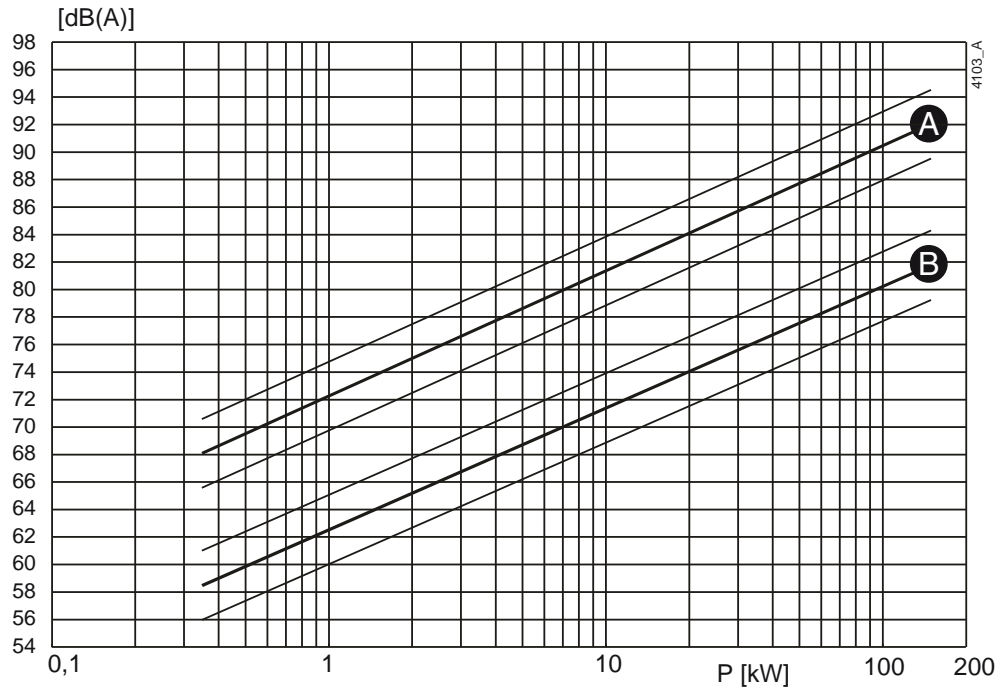
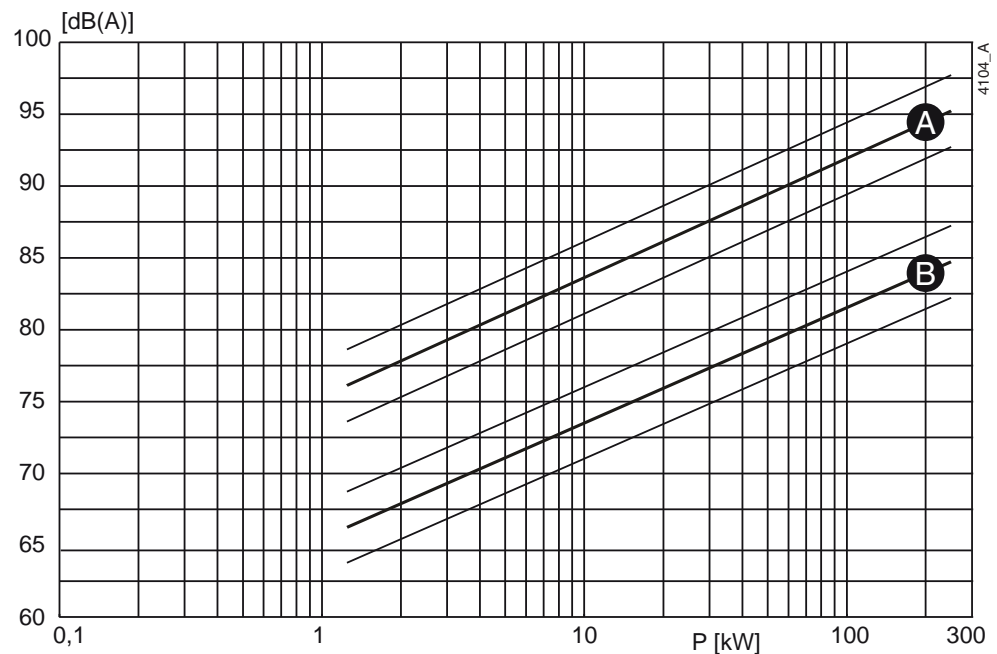

Figure 40: Noise level as function of pump power [kW] at  $1450 \text{ min}^{-1}$
Figure 41: Noise level as function of pump power [kW] at  $2900 \text{ min}^{-1}$
- 1 Determine the noise level ( $L_1$ ) of the pump, see figure 40 or figure 41.